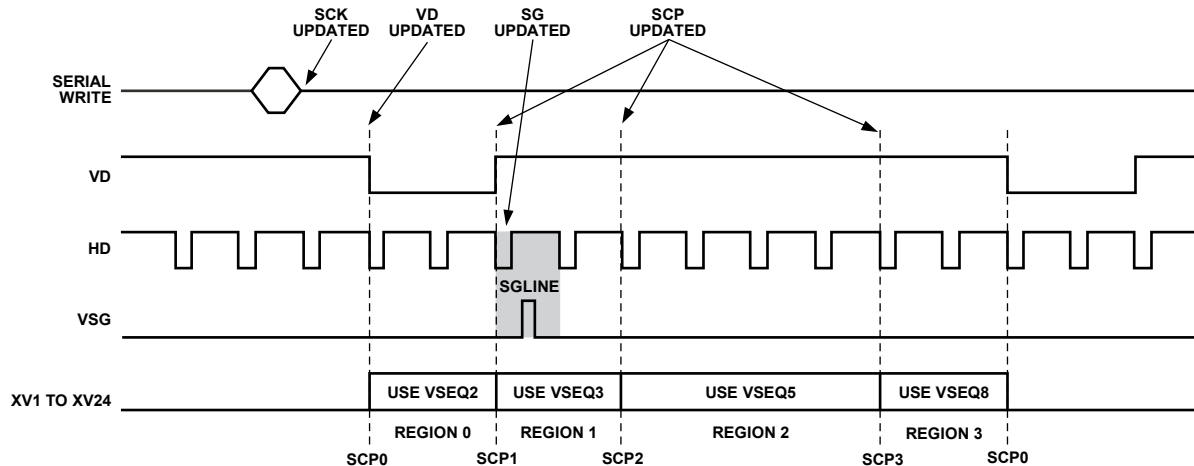

Figure 118. Register Update Locations (See Table 49 for Definitions)
- **SCP Updated**—At the next SCP where they are used, the V-pattern group and V-sequence registers are updated. For example, in Figure 118 this field has selected Region 1 to use VSEQ3 for the vertical outputs. This means that a write to
It is recommended that the registers in the configurable address area not be written within 36 pixels of any HD falling edge where a sequence change position (SCP) occurs. See Figure 108 for an example of what this inhibit area looks like in master and slave modes. This restriction applies to the V-pattern, V-sequence, and FIELD registers. As shown in Figure 118, writing to these registers before the VD falling edge typically avoids loading these registers during SCP locations.